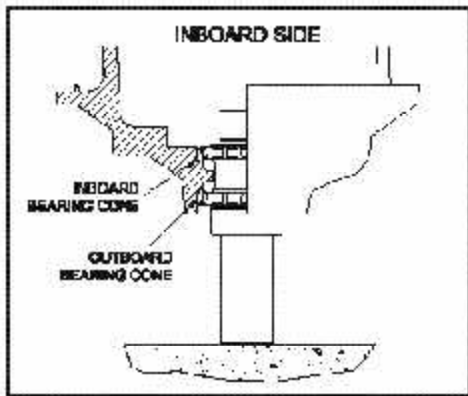

Figure 6.3.5.5—Placing Inboard Bearing Cone onto Shaft
**NOTE:** DO NOT push on bearing rollers or bearing cage; reference Figure 6.3.5.2.